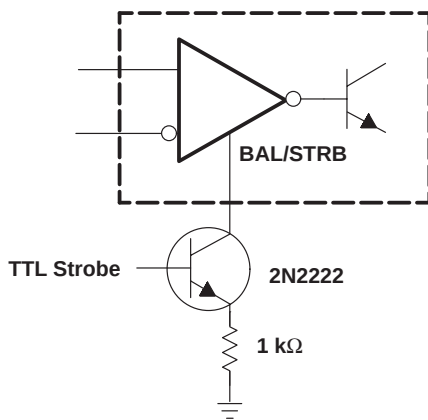

Figure 13. Strobing
6. The strobe should not be shorted to ground; it should be current driven at -3 mA to -5 mA (see Figures 13 and 27).
6. The strobe should not be shorted to ground; it should be current driven at –3 mA to –5 mA (see Figures 13 and 27).